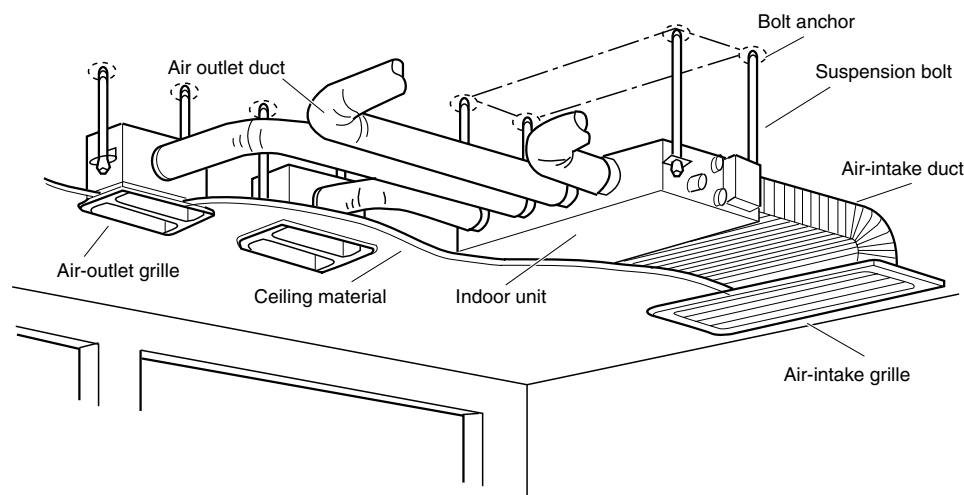

Fig. 3-90
- Fig. 3-90 shows an example of installation.